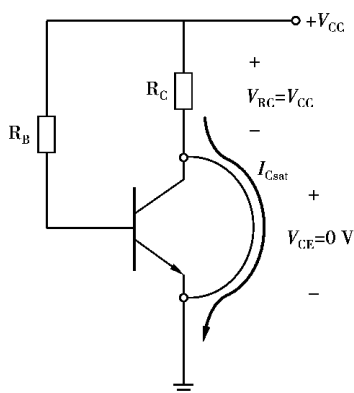

Figure 1.4 Determining I_{Csat} for the fixed-bias configuration
For the future, therefore, if there were an immediate need to know the approximate maximum collector current (saturation level) for a particular design, simply insert a short-circuit equivalent between collector and emitter of the transistor and calculate the resulting collector current. In short, set $V_{CE} = 0$ V. For the fixed-bias configuration of Fig. 1.4 the short circuit has been applied, causing the voltage across R_C to be the applied voltage V_{CC} . The resulting saturation current for the fixed-bias configuration:
5. *For the fixed-bias configuration of Fig. 1.4 the short circuit has been applied, causing the voltage across R_C to be the applied voltage V_{CC} .*
对于如图 1.4 所示的固定偏置电路结构, 当电流取短路电流时, R_C 上的电压降就等于所加电源电压 V_{CC} 。